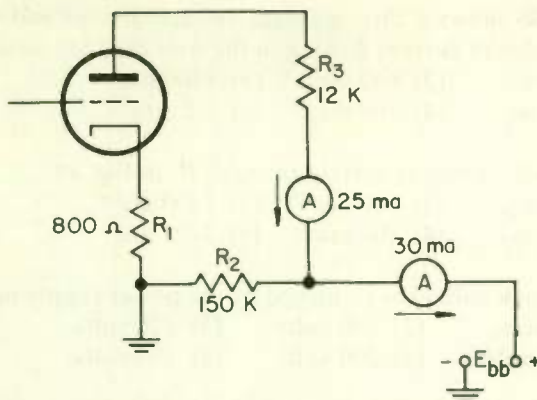

Fig. 47
26. To find the plate voltage (the voltage between plate and cathode) in Fig. 47, we want to walk around a closed path that will include walking between cathode and plate. However, before we do this we must
- (1) use Kirchoff's current law to find the current in R_1 and R_2 , and then find the voltages across R_1 , R_2 , and R_3 .
- (2) know the value of the power supply voltage E_{bb} , and subtract the voltage drop across R_3 from this value.
27. In Fig. 47 what is the value of plate voltage (the voltage between plate and cathode)?